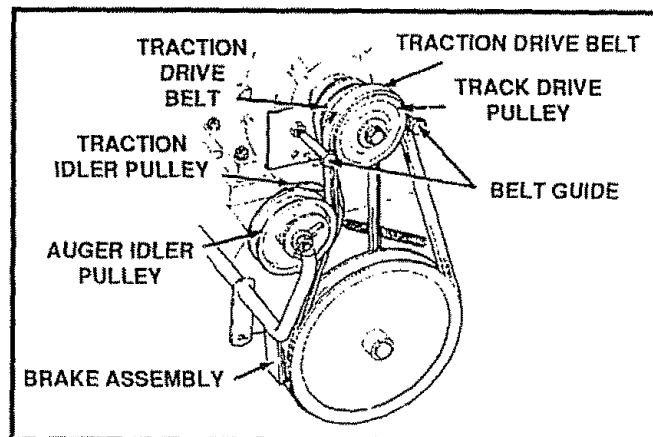

FIG. 30
- Remove the auger drive engine pulley. Removing the engine pulley allows you to remove the belt without removing the belt guides (See Fig. 30).
- Pull the spring loaded traction drive idler pulley (See Fig. 30) away from the traction drive belt.
NOTE: You may have to move the auger brake assembly (See Fig. 30) to remove the belt from the traction drive pulley.